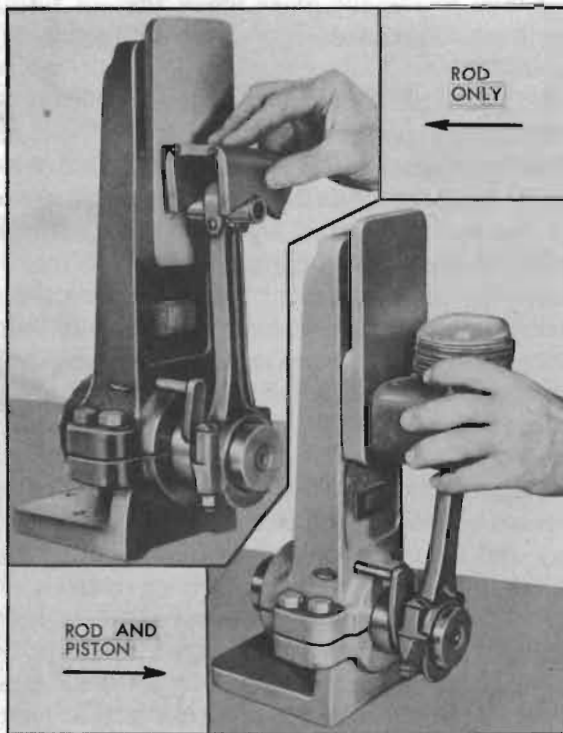

Figure 2-33—Checking Connecting Rod and Piston Alignment
1. Connecting rods may be sprung out of alignment in shipping or handling, therefore, they must always be checked before pistons are installed. Clamp a new piston pin in upper end of connecting rod and test the rod for twist and bend, using an accurate connecting rod aligning fixture. See figure 2-33. Bend or twist the rod if necessary, to secure proper alignment.
3. Check alignment of rod and piston in the connecting rod aligning fixture. See figure 2-33.